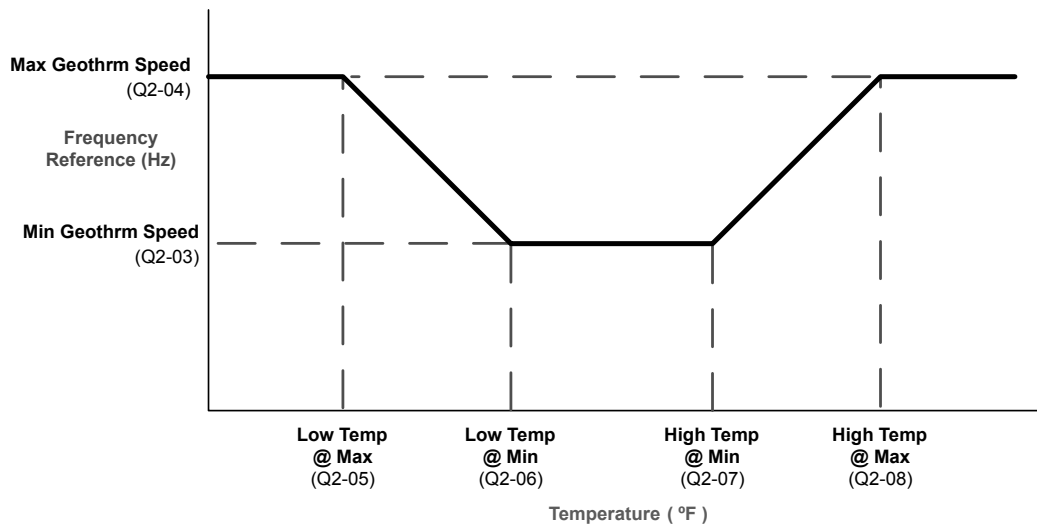

Figure 4.7 Normal Temperature Regulation
7. Set the pump speed-temperature characteristics in Q2-03 to Q2-08. This allows the drive to modulate the pump speed based on the analog input temperature feedback of the water. This will attempt to regulate the water temperature between the Q2-06 and Q2-07 settings. Figure 4.7 shows normal operation.